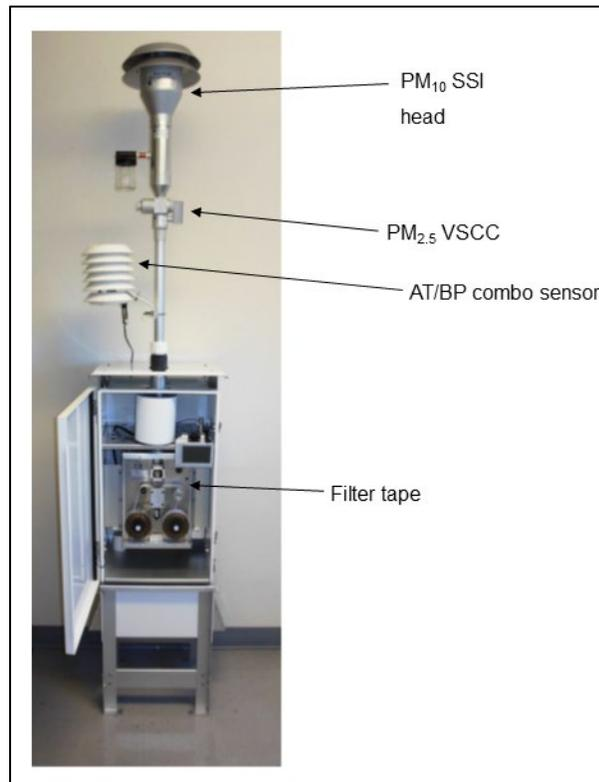

Figure AR-21. Met One BAM 1022
1. See Figure AR-21 for an illustration of the BAM 1022.